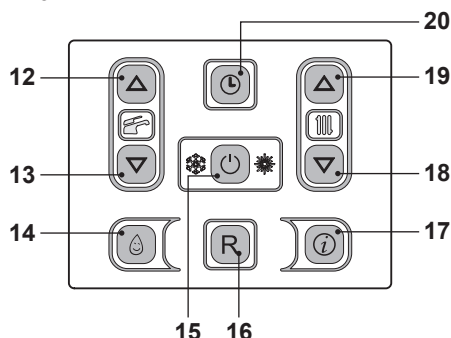

Fig. 2.9
- Press the key 15 for 2 seconds until the  symbol appears on the display Fig. 2.9.
The output temperature of C.H. water can be adjusted by pressing keys 18 (reduce) and 19 (increase) (Fig. 2.9) from a minimum of about 25°C to a maximum of about 85°C. Press one of the two keys once to display the "set" value. Press again to access the modification.
However, if the ambient temperature is not comfortable, the flow temperature of the heating plant can be increased or reduced by  $\pm 15^{\circ}\text{C}$  by acting on keys 18 (reduce) and 19 (increase) (Fig. 2.9).
The heating temperature of the zone valve controlled by a thermostat is configured on the boiler control panel using keys 18 and 19 Fig. 2.9.